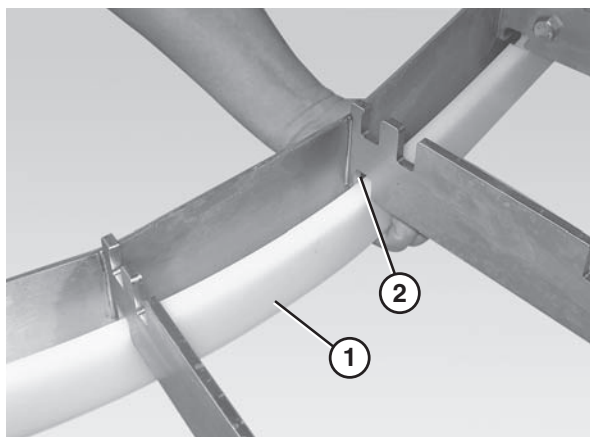

Figure 32
1. Insert the inside return bottom wear strip (Figure 32, item 1) into the slots (Figure 32, item 2) on the lower inside section of the frame (figure shown without the belt or wear strips).
2. Attach the chain return shoes (Figure 32, item 1) to the curve return shafts (Figure 32, item 2).